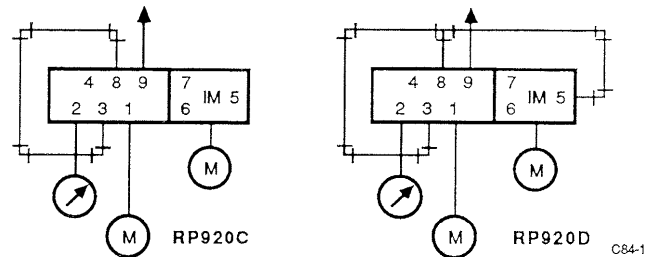

Fig. 7. Connections for Operating Point Check (RP920C and D).
1. Pipe the connections (Fig. 7). Install Barb Fitting 14003755-001 in Port 8 and in the top of the integral module. Connect the mainline to the integral module. This procedure requires 20 psi (138 kPa) minimum MLP.